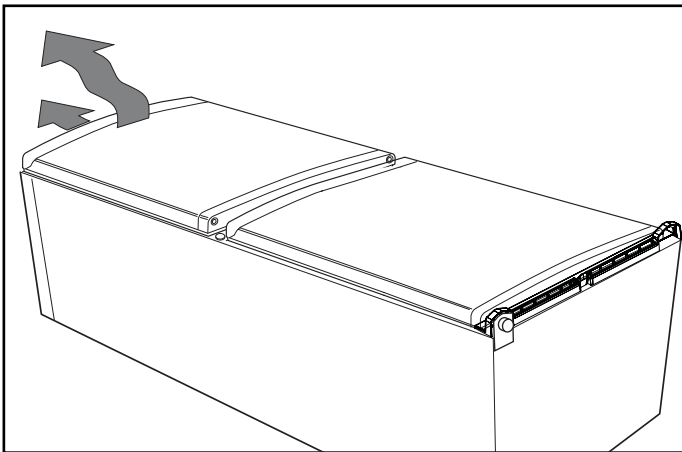

Fig.3
4. Gently lift and slide the top door away from centre hinge pin and carefully place to one side. *Fig.3*